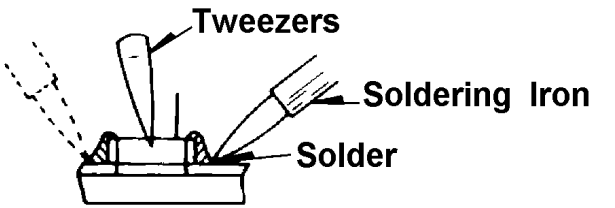

Fig. 2-3 - Chip Component Installation
- b. Hold the component in position with tweezers and solder the electrodes as shown (Fig.2-3).